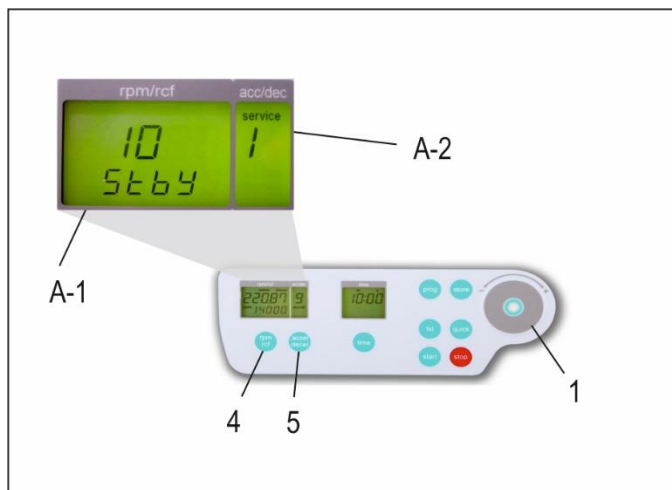

Figure 11
Proceed as illustrated, under point 1.8.1, to enter this program mode, press the key, "accel/decel" (5). In the display, "accel/decel" (A-2) flashes the word, "service". Select the letter "I" with the control field (1). As a result, appearing in the display, "rpm/rcf" (A-1), the word "Stby" (see Figure 11) . After pressing the key „rpm/rcf“, the standby mode can be turned off or pre-set to the needed value by turning the control field (1).